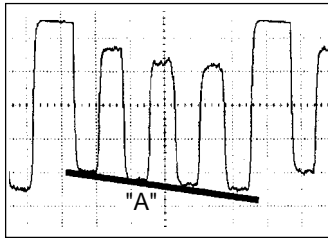

Fig. 2-2
5. Press the VOL. +/- button on the remote control until the section "A" becomes a straight line. **(Refer to Fig. 2-2)**